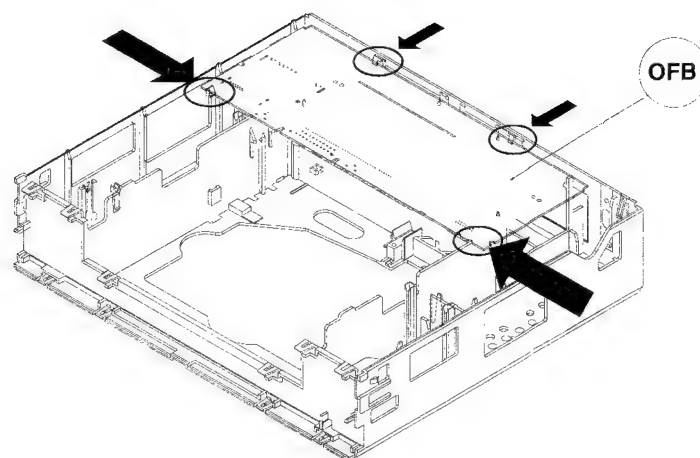

Fig. 6
- Release the 4 snap hooks (see fig. 6).